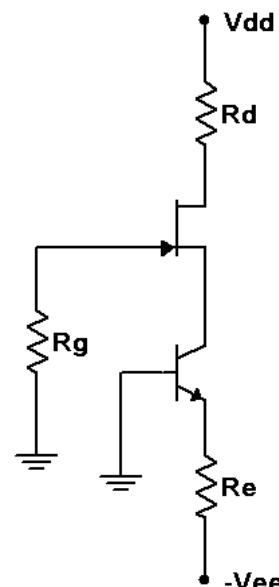

Figure 4
- Consider the circuit of Figure 4 using $V_{dd} = 15$ volts, $V_{ee} = -5$ volts, $R_d = R_e = 4.7 \text{ k}\Omega$ and $R_g = 330 \text{ k}\Omega$. Calculate and record the expected voltages for JFET 1 in Table 6. Also record the expected drain current in Table 7.
- Build the circuit of Figure 4 using $V_{dd} = 15$ volts, $V_{ee} = -5$ volts, $R_d = R_e = 4.7 \text{ k}\Omega$ and $R_g = 330 \text{ k}\Omega$. Measure and record the voltages for JFET 1 in Table 6. Based on V_D , compute and record the experimental drain current in Table 7. Also find and record the drain current deviation.
4. In general, identify two ways of increasing the drain current in the circuit of Figure 4.